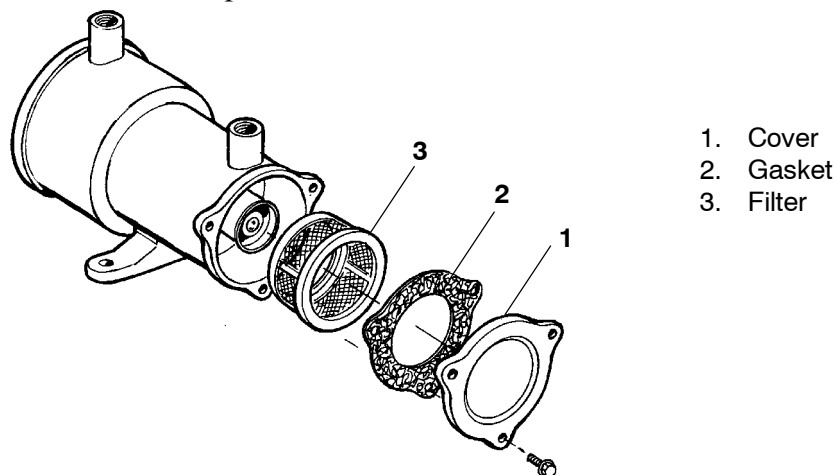

Figure 8-2. Electric Fuel Pump (Optional)
b. Electrical Pump (See Figure 8-2)
1. Remove 3 screws from cover (item 1, Figure 8-2).